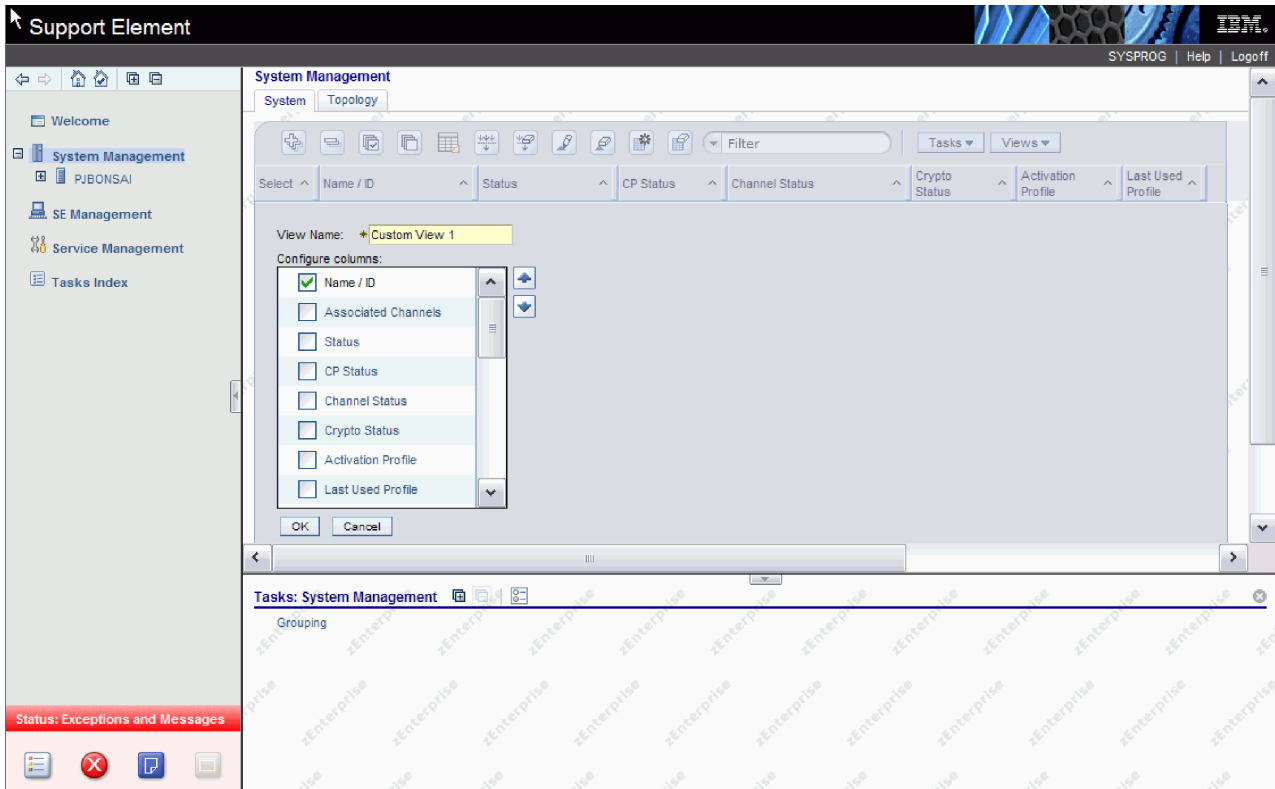

Figure 21. Custom table view
3. You can specify a unique name for your custom view in the **View Name:** input field (see Figure 21 on page 28).